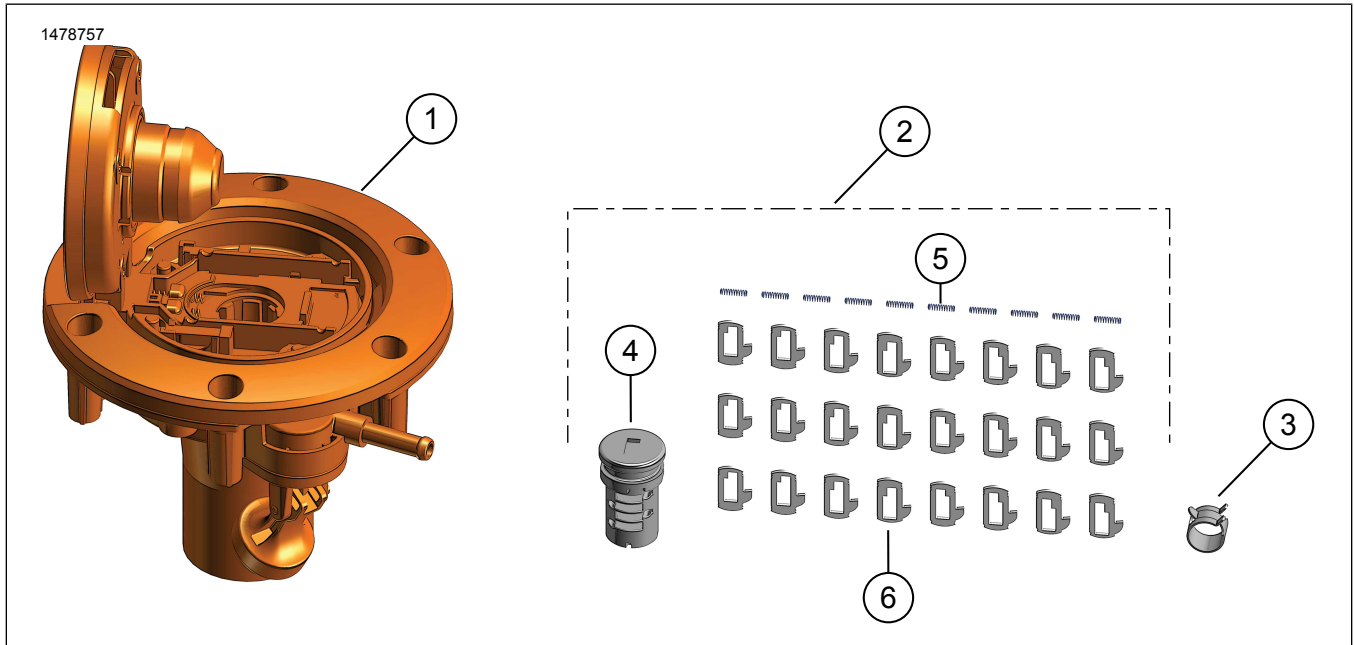
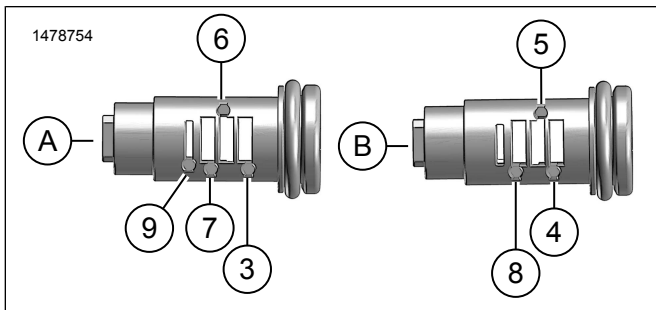

Figure 1. Kit Contents: Round Style Locking Fuel Cap
Figure 5. Spring and Tumbler Install Locations
- See Figure 5. Install tumbler springs (5), see Figure 1, into holes at stations 8,5,4 and 1 on side (A) of cylinder sub-assembly.
- See Figure 5. Install tumblers (6), see Figure 1, #11-14 in stations 8,5,4 and 1 per tumble numbers determined in Table 3.
- See Figure 5. Install tumbler springs (5), see Figure 1, into holes at stations 2,3,6 and 7 on side (B) of cylinder sub-assembly.
- See Figure 5. Install tumblers (6), see Figure 1, #21-24 in stations 2,3,6 and 7 per tumble numbers determined in Table 3.
9. See Figure 1. Install hose clamp (3) on vapor hose where OE clamp was removed earlier.